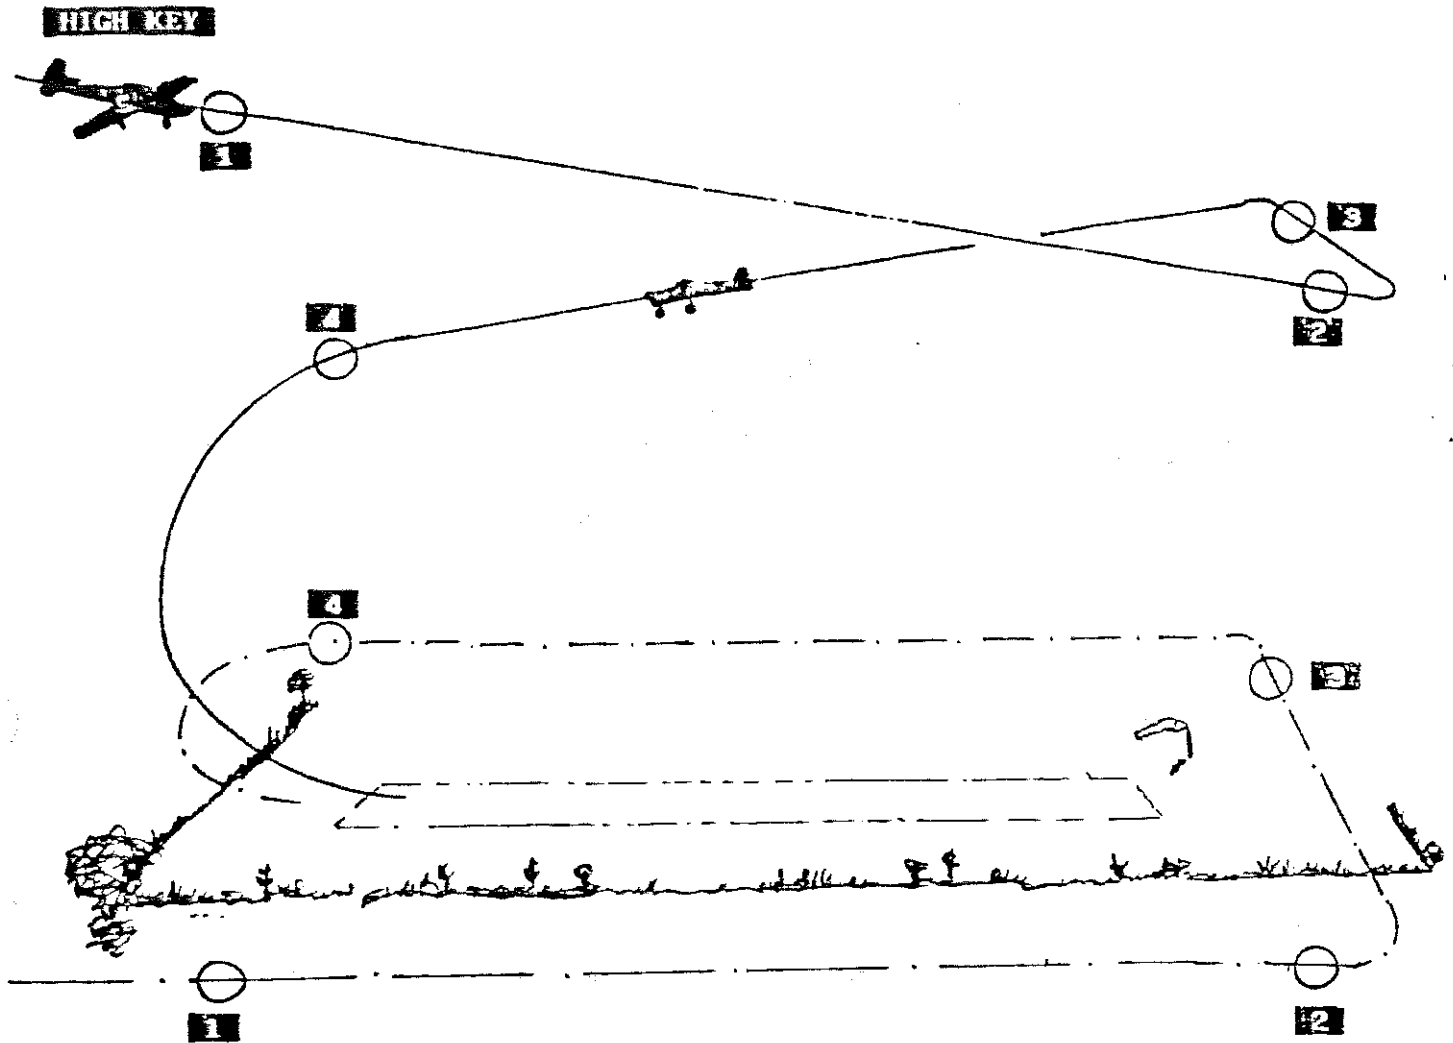
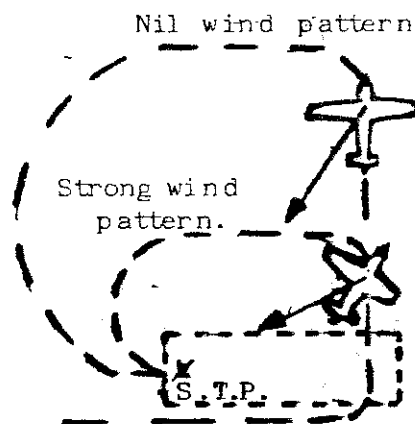

Fig 17.3 Forced landing patterns
Fig 17.5 Effect of wind on pattern
6 The required pattern is illustrated in (Fig 17.3) and described below:
* The pattern itself is started from the 'High Key' position. This position is defined as that where, with the aircraft heading in the same direction as it will land (normally into wind), the initial aiming point, one-third of the way into the field, is just in view on the left side of the cowling, in front of the leading edge of the wing, with the aircraft at, or above, 2000ft (Point 1 in Fig 17.3). The height is not absolutely critical, and will be discussed further in paragraph 9.
* From the 'High Key' point, the aircraft is flown straight, until the initial aiming point appears behind the trailing edge of the wing. (Point 2 in Fig 17.3).
- * The aircraft is then turned until it tracks at 90° to the landing direction and this heading is maintained until the selected touchdown point appears behind the wing in the 7 or 5 o'clock position relative to the aircraft (Point 3 in Fig 17.3).
- * At this point turn and fly a "downwind" leg until, at the latest, the selected touchdown point is abeam the wing tip. Bank is then applied and adjusted to maintain the sightline angle until the aircraft reaches a position coincident with that seen on a glide approach at about point 4 in Fig 17.3.
8 If you refer back to paragraph 6 and Fig 17.3, you will see that we TRACK at right angles to the landing direction when flying crosswind. It follows that the stronger the wind, the more we must head into it and the closer we will be to the field when it appears at point 3 in Fig 17.a. The modified pattern is illustrated at Fig 17.5. As we are closer to the field the aspect will be steeper which is exactly what we want.